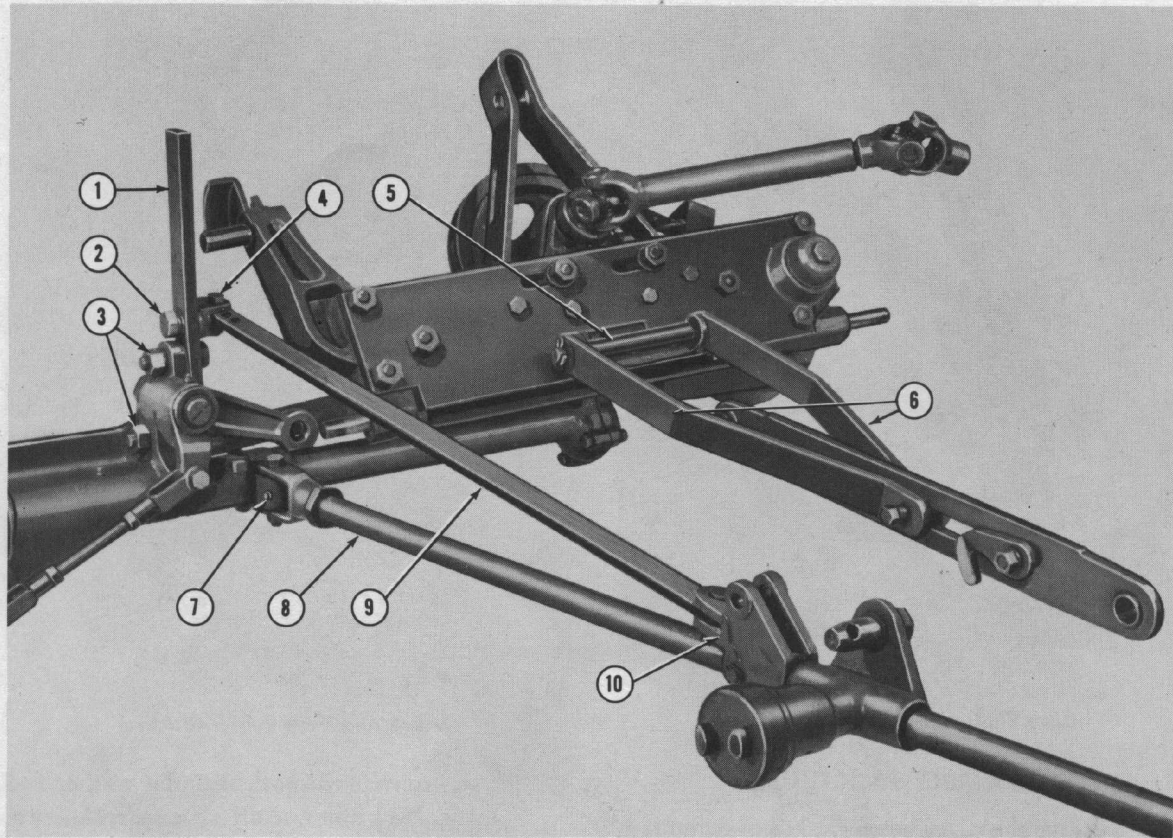

Figure 5
5. Tilt the mower main frame to the rear as shown in Figure 5 and attach the top link anchor straps (6) to the bracket on the front of the main frame. Secure with the $\frac{3}{4}$ "x $\frac{7}{8}$ " pin (5), flat washers and cotter pins as shown.
6. Attach the tilt lever (1), Figure 5, to the hinge casting with the two bolts (2) and secure with the lock washers and nuts provided. Attach the tilt link yoke (4), Figure 5, to the left side of the tilt lever with a spacer, flat washer, lock washer and $\frac{5}{8}$ " x $1\frac{3}{8}$ " bolt (2), as shown.
7. Attach the yoke end of the pull bar (8), Figure 5, to the eye (7) on the drag bar with the $\frac{1}{2}$ "x $2\frac{1}{2}$ " spacer, $\frac{1}{2}$ "x $2\frac{1}{16}$ " bolt, lock washer and nut provided.
- a. Attach the forward end of the tilt link (9) (forward end has only one hole) to the bracket (10), as shown in Figure 5, and secure with a $\frac{1}{2}$ "x $1\frac{7}{16}$ " pin and cotter pin.
- b. Attach the rear end of the tilt link (9) to the yoke (4), Figure 5, with a $\frac{3}{8}$ "x $1\frac{3}{8}$ " bolt, lock washer and nut.